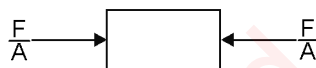

Fig. 5.2
- Compressive stress:** The perpendicular force per unit area of the cross-section that producing contraction of the body is called compressive stress. It is shown in (Fig.5.2) and